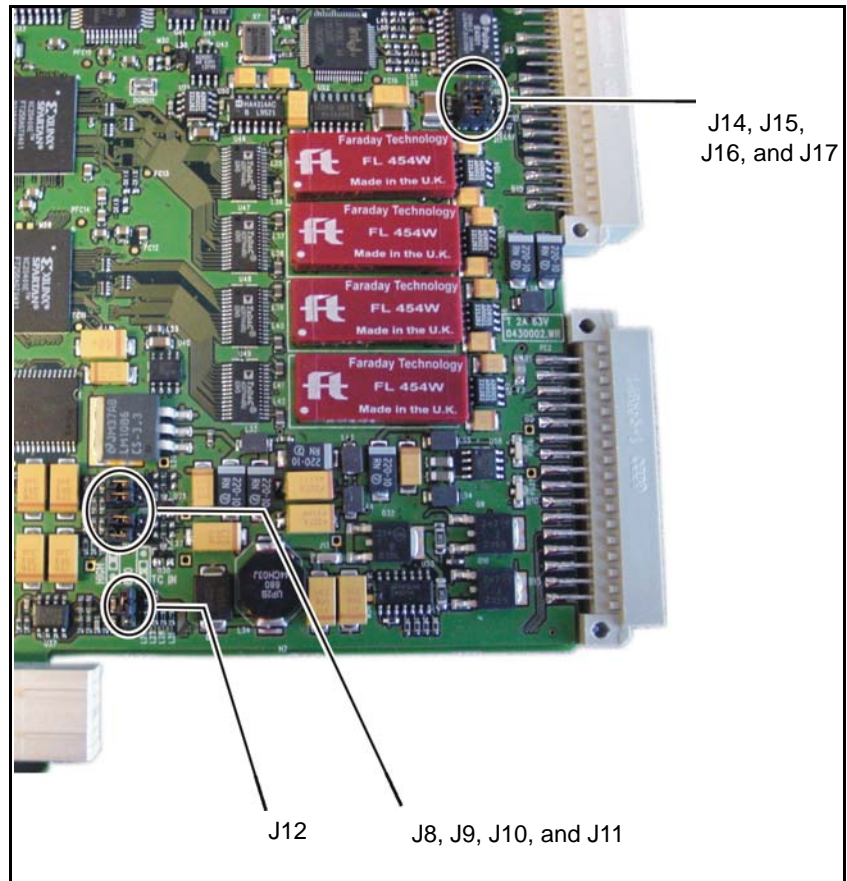
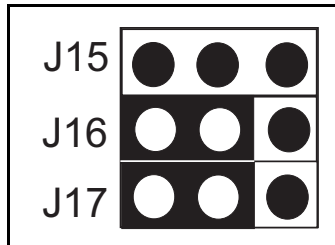
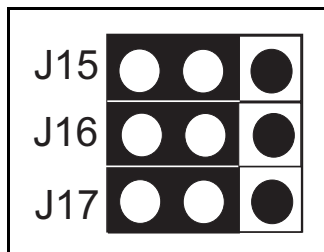

Figure 2-2. MTG-3901/CSD-3902 Jumper Locations
Figure 2-3. MTG-3901/CSD-3902-SYS-*x* PPS Jumper Setting
Figure 2-4. CSD-3902 Stand-alone System PPS Input Jumper Settings
On the MTG-3901/CSD-3902 front modules there are several jumpers that you need to set before you operate the unit for the first time. See Figure 2-2 for the location of these jumpers.
- For MTG-3901/CSD-3902-SYS-*x* systems, locate jumper pins **J14** through **J17** on your MTG-3901 front module (see Figure 2-2 on page 26 for the location of these jumpers) and set jumpers on jumper pins **J16** and **J17** as illustrated in Figure 2-3.
- For CSD-3902 stand-alone systems, locate jumper pins **J14** through **J17** on your CSD-3902 front module (see Figure 2-2 on page 26 for the location of these jumpers) and set jumpers on jumper pins **J15**, **J16**, and **J17** as illustrated in Figure 2-4.
To configure your CSD-3902 stand-alone system for BBIL mode, locate jumper pins **J14** through **J17** on your CSD-3902 front module (see Figure 2-2 on page 26 for the location of these jumpers) and then set jumpers on jumper pins **J15**, **J16**, and **J17** as illustrated in Figure 2-3.
You can set the impedance of the Timecode Output 1 using jumpers **J8** and **J9**, and Timecode Output 2 using jumpers **J10** and **J11** as indicated on the silk-screen on the product circuit board. The two possible jumper settings are **LOW** for a low-impedance output, and **600** for a 600 Ω output impedance. The unit is shipped with the **LOW** jumper setting. See Figure 2-2 on page 26 for the location of these jumpers.
You can set the impedance of the timecode input using jumper **J12**, as indicated on the silk-screen on the product circuit board. The two possible jumper settings are **HIGH** for a high-impedance input, and **600** for a 600Ω input impedance. The unit is shipped with the **HIGH** jumper setting. See Figure 2-2 on page 26 for the location of these jumpers.